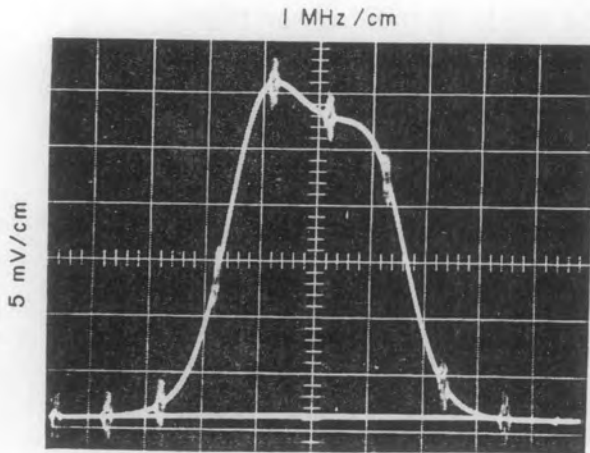

Figure 4-23. Typical Response,
- (2) Set the MODE switch to the AM MAN position, set the IF BANDWIDTH switch to its widest bandwidth, and turn the RF/IF GAIN control fully clockwise.
- (3) Set the 90-300 MHz tuner to 90 MHz and center the FINE TUNING control.
- (4) Tune the sweep generator to 90 MHz and turn on 1 MHz COMB markers. Set the output level of the generator to -37 dBm.
- (5) Adjust the sweep generator and oscilloscope controls to display a response curve. (The oscilloscope vertical sensitivity setting is shown on the left-hand margin of Figure 4-23.) The rf response should resemble that shown.
- (6) If the response curve does not resemble Figure 4-23, adjust capacitors A1C28, A1C33, A1C36, and A1A1C4 until it does.
Do not adjust A1C13, A1C17, or A1L3 and A1L4 when aligning the interstage network. The adjustment of A1L8 and A1L10, described in the following steps, should not be attempted unless considered absolutely necessary (unless, for instance, the five section inductuner, L1A-E, is replaced). The shape and positioning of A1L8 and A1L10 is extremely critical. If responses similar to Figures 4-23 and 4-24 cannot be obtained, the tuner may require factory alignment.